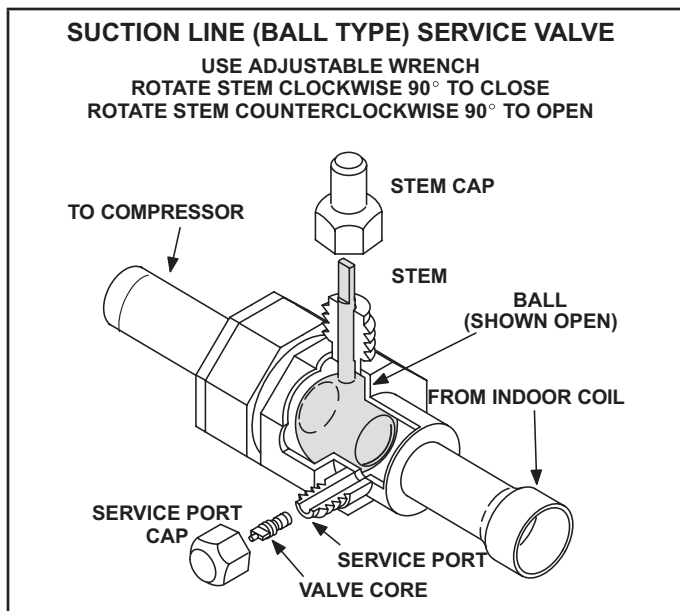

FIGURE 5
- 1 - Connect an HFC-410A manifold gauge set as illustrated in figure 5.